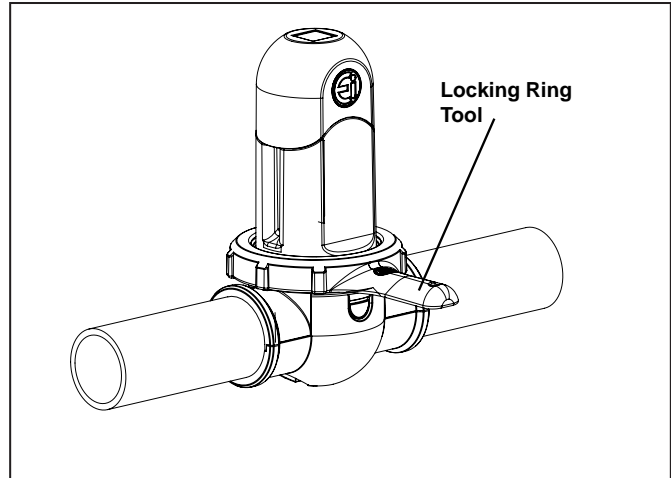

Figure 25. Undo Locking Ring
5. Undo the locking ring. If required, use the locking ring tool provided (see Figure 25).